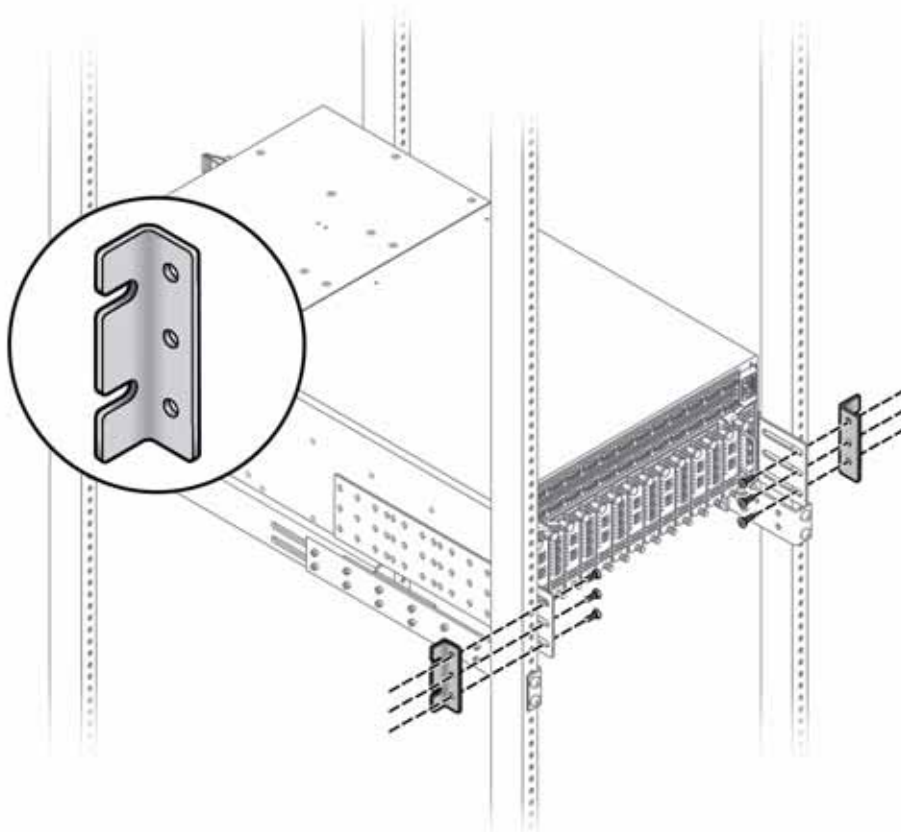

Figure 5 Attaching Angle Brackets to Side Panels
- Step 19** From inside the side panels, insert the pan-head screws (10-32, 10-24, or M6) through the slots in the side panel and into the angle bracket's screw holes. Each angle bracket requires 3 screws. Figure 5 shows aligning the angle brackets and inserting the screws. When the angle brackets are correctly installed, the slotted surface will lie flush against the rack posts.